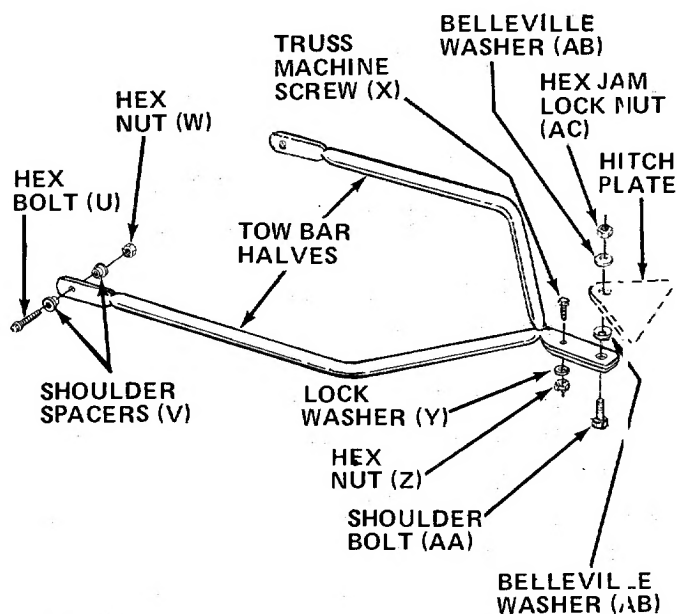

FIGURE 15
2. Place two bar halves in position on frame. Place one shoulder spacer (V) between frame and tow bar. Next, place shoulder spacer (V) and hex bolt (U) through tow bar and frame. Secure with hex nut (W). See figure 15. Repeat for other side.
3. Secure the two tow bar ends together with truss machine screw (X), lock washer (Y) and hex nut (Z). See figure 15.
To attach the tow bar to a hitch, place the shoulder bolt (AA) up through the tow bar. Place one belleville washer (AB) on the shoulder bolt, then the hitch plate and the other belleville washer. Cupped side of the washers must be against the hitch plate. Secure with hex jam lock nut (AC). See figure 15.